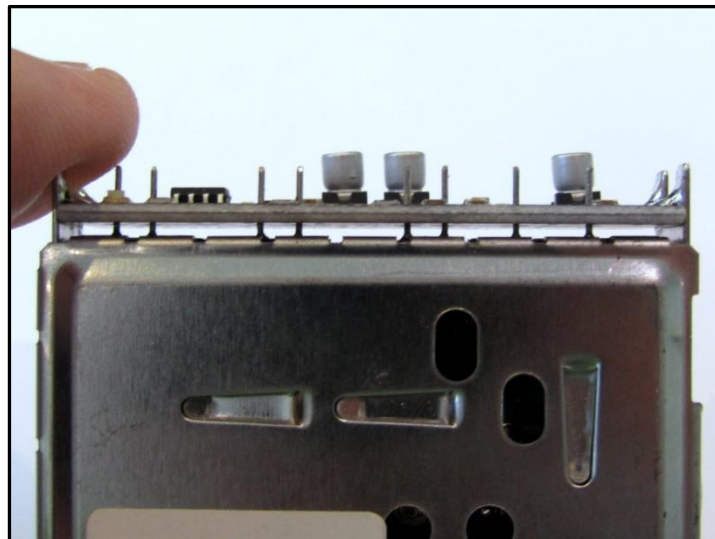

Figure 6: PCB Clearance required.
4. Solder the tabs of the tuner can to the long pads at each end of the PCB as shown in figures 4 & 5. Make sure there is a little clearance between the bottom of the PCB and the can as shown in figure 6.